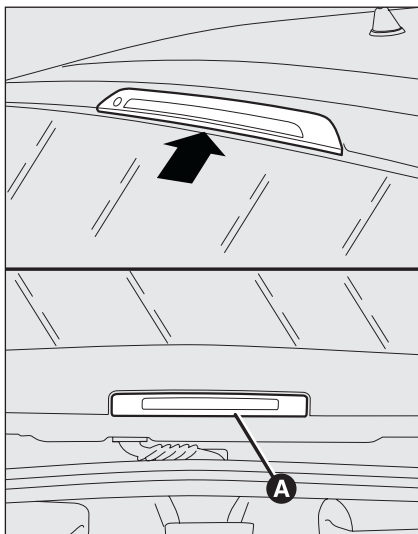

fig. 32
- ☐ remove cover **A**-fig. 32;
- ☐ refit cover **A**-fig. 32 and then close the tailgate.